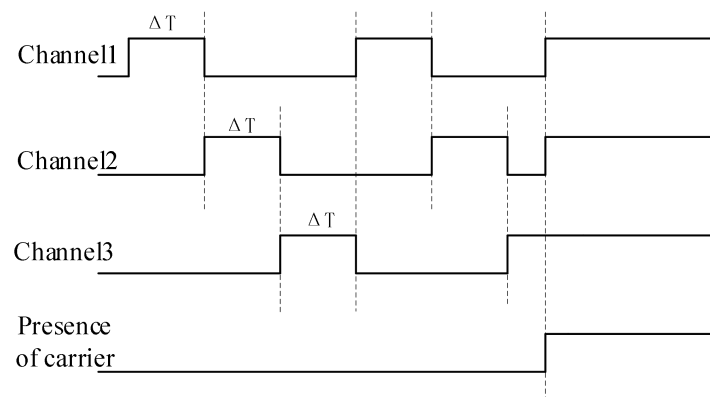

Figure 5-2 Scanning Mode
2. Scanning Mode (Low Power Mode 1). In this sub-mode, a time slot $T=1\text{ms}$ is defined and in each time slot only one channel can be active. As shown in Figure 5-2 when a certain time slot is over, the current active channel is switched OFF and the next channel becomes active and so on. If, for example all three channels are enabled, in the first time slot the only active channel is the number one. When the first time slot is over, the channel one is switched OFF and the channel three becomes active. During the third time slot, the channel two is active while the other two are OFF. This channel rotation starts back from the channel one and goes on until the presence of the carrier is detected by any channel. The Scanning mode (channel rotation) is managed internally by the Si3933 and doesn't need any activity from the host system (MCU). As soon as one channel detects the frequency, all three channels become immediately active at the same time. The Si3933 can perform a simultaneous multidirectional evaluation (on all three channels) of the field and evaluate which channel has the strongest RSSI. The channel with the highest RSSI will be put through to the demodulator. In this way it is possible to perform multidirectional monitoring of the field with a current consumption of a single channel, keeping the sensitivity as good as if all channels are active at the same time.